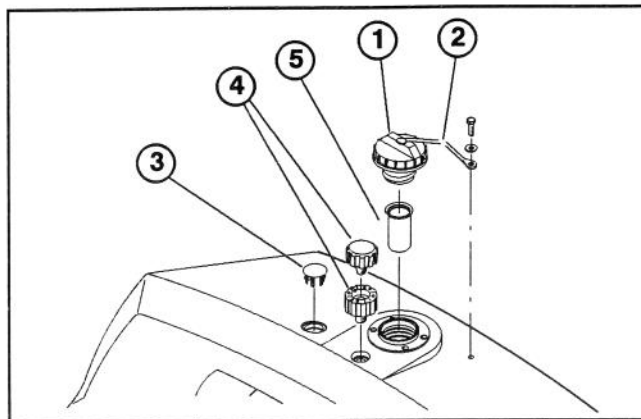

Figure 1
1. Remove hydraulic cap, cap tether retaining bolt, and washer from main hydraulic tank (Fig. 1).
2. Remove plastic insert plug from main hydraulic tank (Fig. 1).
4. Remove breather and breather extension from top of main hydraulic tank (Fig. 1).
7. Remove filler screen (Fig. 1) and place in neck of auxiliary tank.